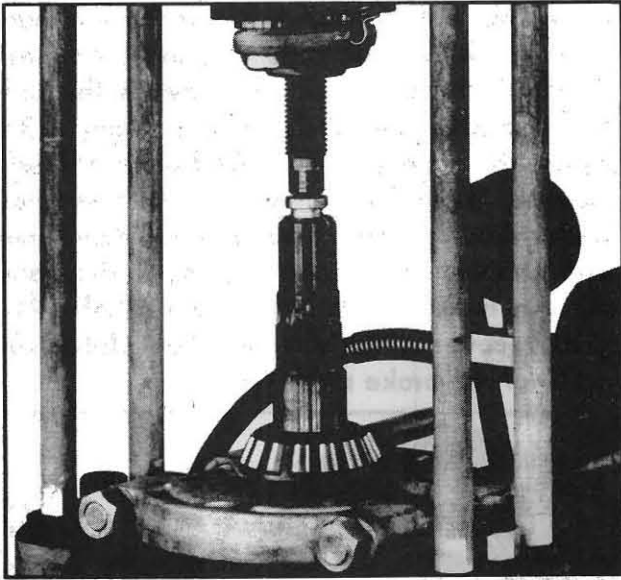

Fig. 262
3. If only the pinion and ring gear are damaged and it is desired to reinstall the bearings on a new pinion, the tapered-roller bearing may be removed from the pinion by supporting the bearing in a bearing splitter and pressing out the pinion as shown in Fig. 262. Make sure that the bearing splitter makes